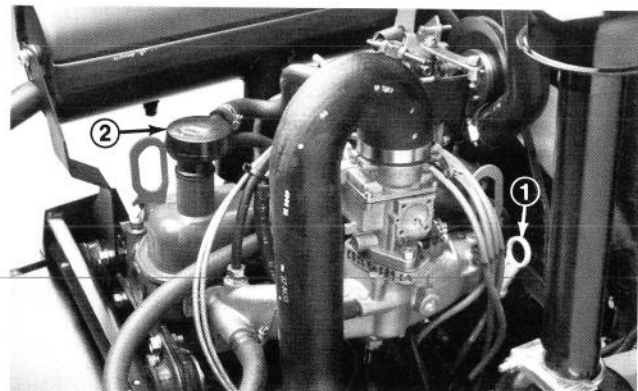

Figure 17
4. Remove dipstick and wipe it with a clean rag. Push dipstick down into the tube and ensure it is seated fully. Pull dipstick out of the tube and check level of oil. If oil level is low, remove filler cap (Fig. 17) and add enough oil to raise level to top of flat at end of dipstick. **DO NOT OVERFILL.**